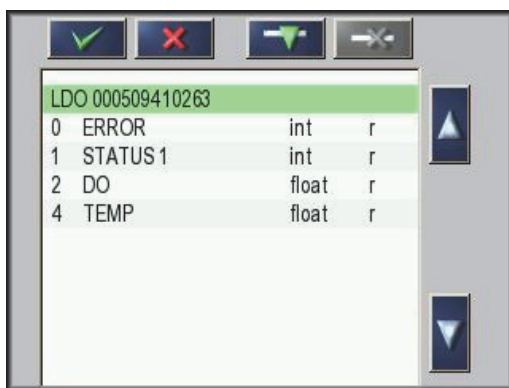

Figure 27 Device list
4. Select a probe/device and press the **ENTER** button. The probe/device (including serial number) is added to the telegram box (Figure 27).